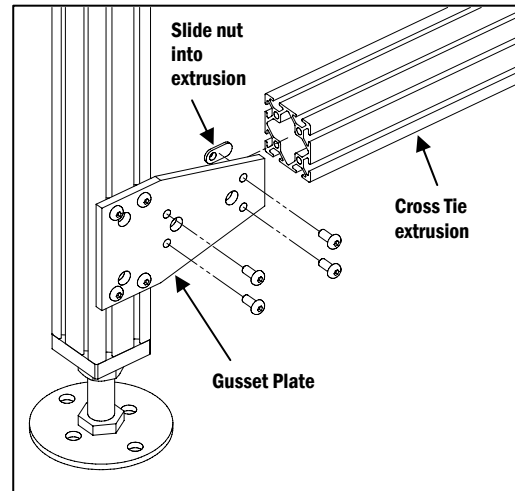

Figure 2
b. The Gusset Plate should be positioned over the Drop In Nuts in the stand extrusion T-Slot and secured with the Socket Head Screws. Slide the Cross Tie nuts into the cross tie extrusion prior to assembly (Figure 2). Although there are twelve holes in the Gusset Plate, only the smaller eight holes will be used.